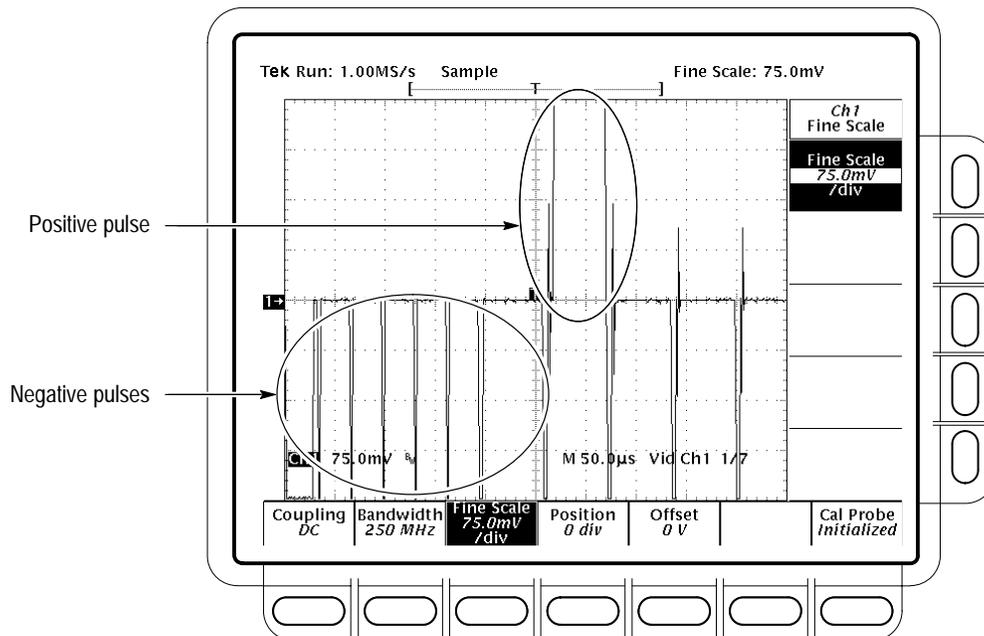

Figure 4-30: Triggered signal range test – 75 mV
- o. CONFIRM that the **TRIG'D** LED stays lighted and that the waveform on screen is stable. That is, it does not move horizontally or vertically. Also, CONFIRM that the waveform on the screen has one positive pulse and a number of negative pulses. See Figure 4-30.